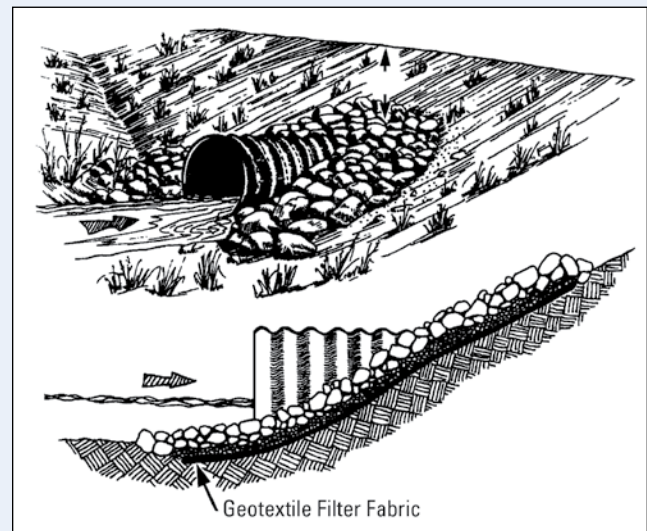

Figure 12-10: Use riprap around the inlet and outlet of culverts. (Figure Credit: WDNR)
- ◆ Use riprap around the inlet and outlet of culverts to prevent water from eroding and undercutting the culverts. Use filter fabric or a filter layer of gravel under the riprap (see Figure 12-10). Consider using flared-end culvert sections.